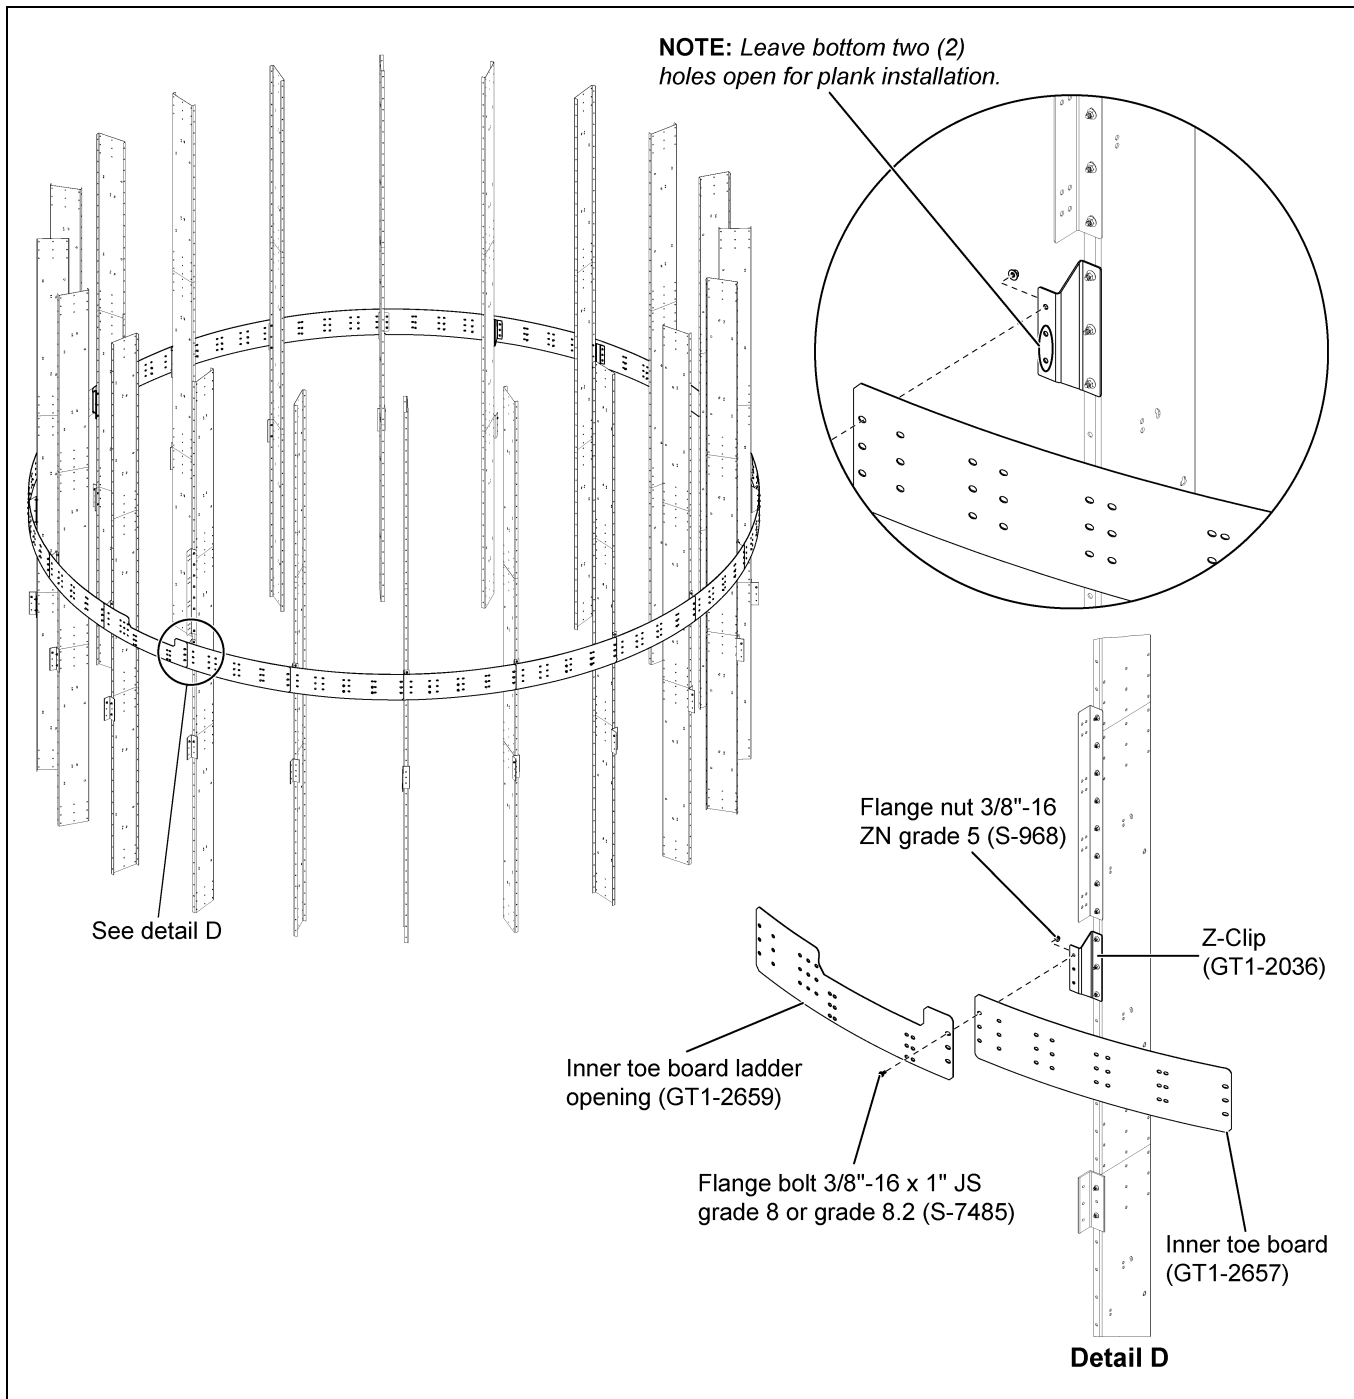
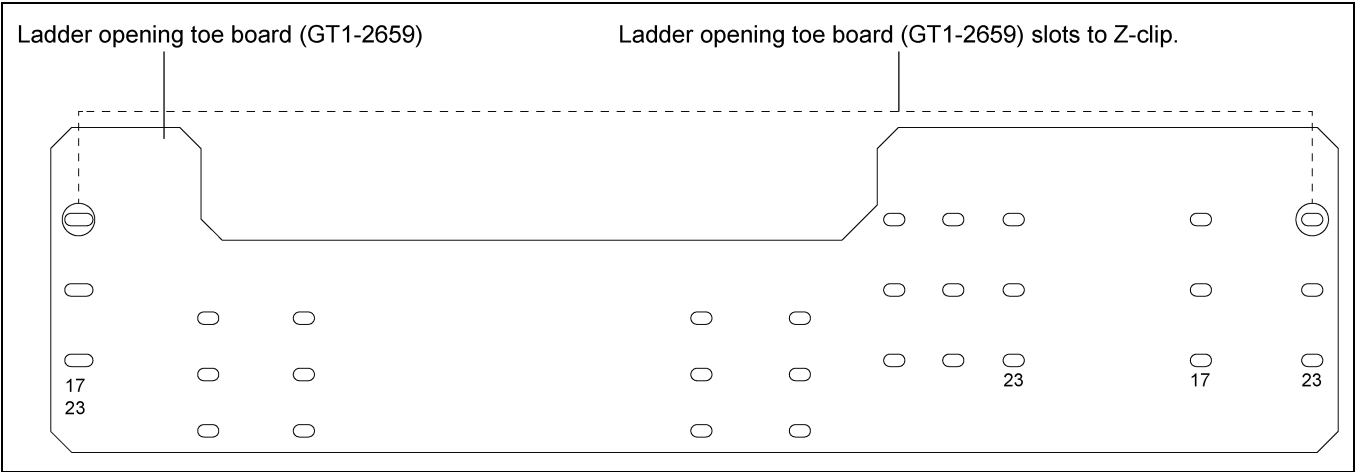

Figure 4G
Figure 4H 23'-4" Ladder Opening Toe Board (GT1-2659)
1. Install the inner toe board (GT1-2657) to the Z-clips (GT1-2036). All toe boards should be installed between the Z-clips using 3/8"-16 x 1" JS grade 8 or grade 8.2 bolts (S-7485) and 3/8"-16 ZN grade 5 nuts (S-968). *(See Figure 4G.)*
2. At the ladder location, install the ladder opening toe board (GT1-2659) to Z-clips using 3/8"-16 x 1" JS grade 8 or grade 8.2 bolts (S-7485) and 3/8"-16 ZN grade 5 nuts (S-968) in such a way that toe board opening falls on the ladder path. *(See Figure 4G below and Figure 4H on Page 20.)*